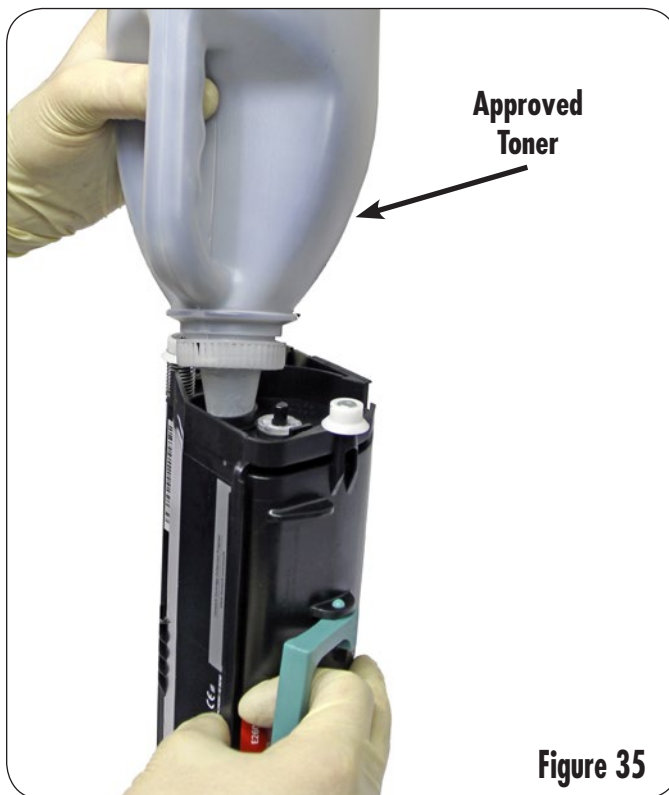

Figure 35
15. Fill the toner hopper with approved toner as shown in Figure 35.